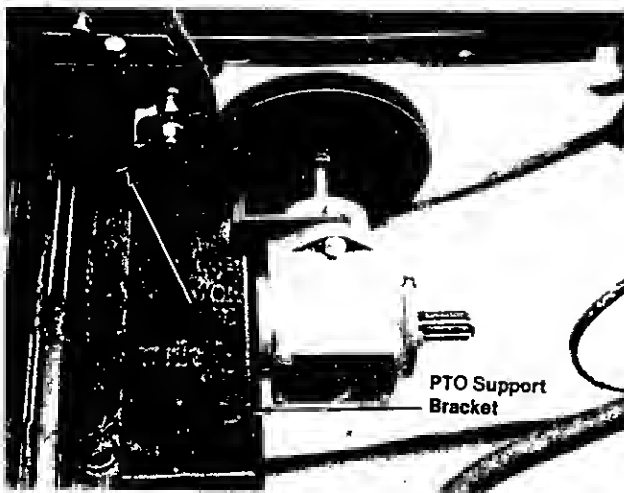

FIGURE 19.
1. Place the PTO assembly in back of the front axle and hook the top slotted hole on the PTO support bracket over the weld pins on the tractor. Tighten nuts finger tight. See figure 19.
1. Attach the ferrule to the upper arms using the cotter hairpins. See figure 19.
3. Attach the right draft bar to the side of the frame with a cotter hairpin. See figures 19 and 20 to determine which draft bar goes on the right side.